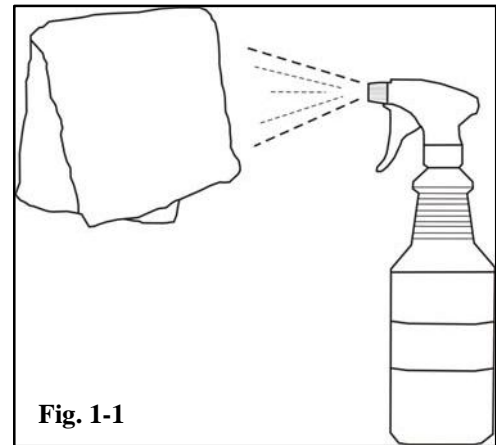

Fig. 1-1
- (1) Shake VDC Approved Cleaner well.
- (2) Always use a clean, dry lint-free cloth.
- (3) Apply VDC Approved Cleaner directly to cloth, do not apply directly to vehicle. (Fig. 1-1)
(4) Clean surface thoroughly and wipe dry with a new, clean cloth. Do not allow cleaner to air dry.